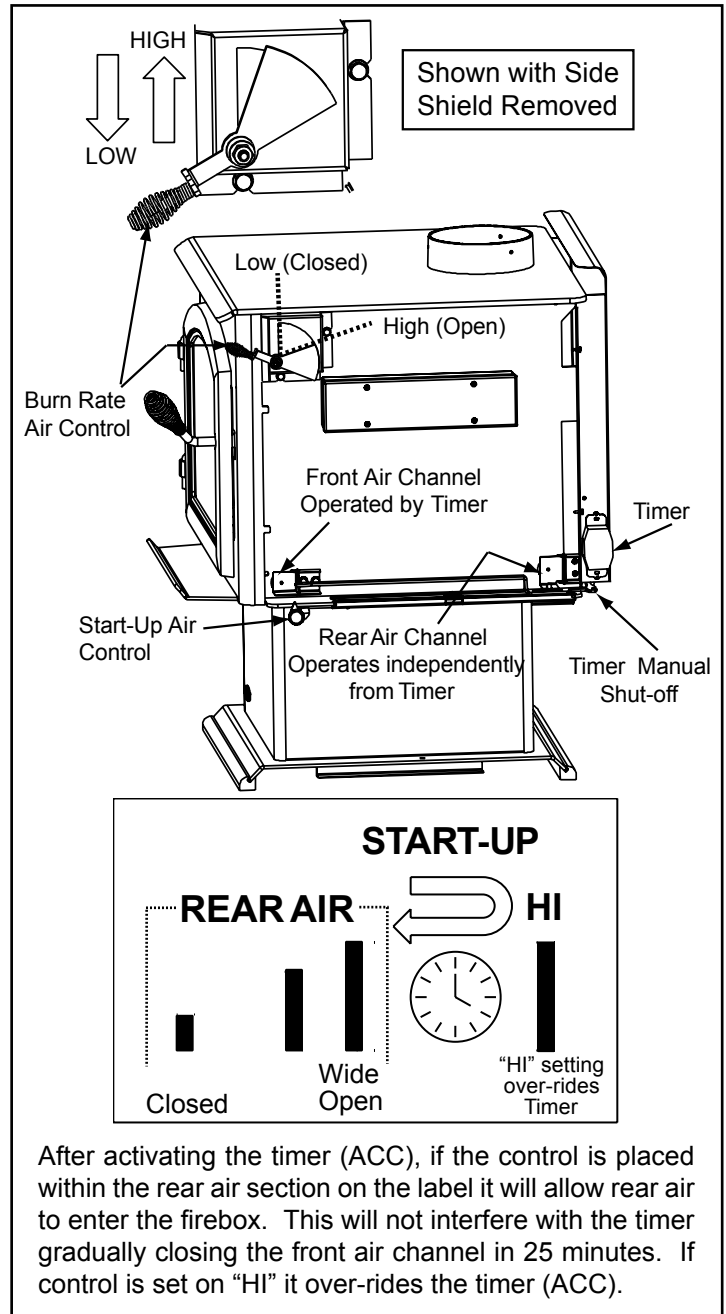

Figure 27.1
This air supply enters at the upper front of the firebox, near the top of the glass door. This preheated air supplies the necessary fresh oxygen to mix with the unburned gases, helping to create second, third and fourth combustions. This air is regulated by the Burn Rate Air Control. There are four settings High, Medium-High, Medium-Low and Low. When the control is raised all the way up it is on the High setting and when pushed all the way down it is on the Low setting. **Figure 27.1.**
1. This appliance has a timer system (ACC) that operates the stove at its maximum efficiency removing any guess work for the homeowner. Follow the instructions below for each burn rate for the Start-Up Air Control and Burn Rate Air Control. **Figure 27.1.**